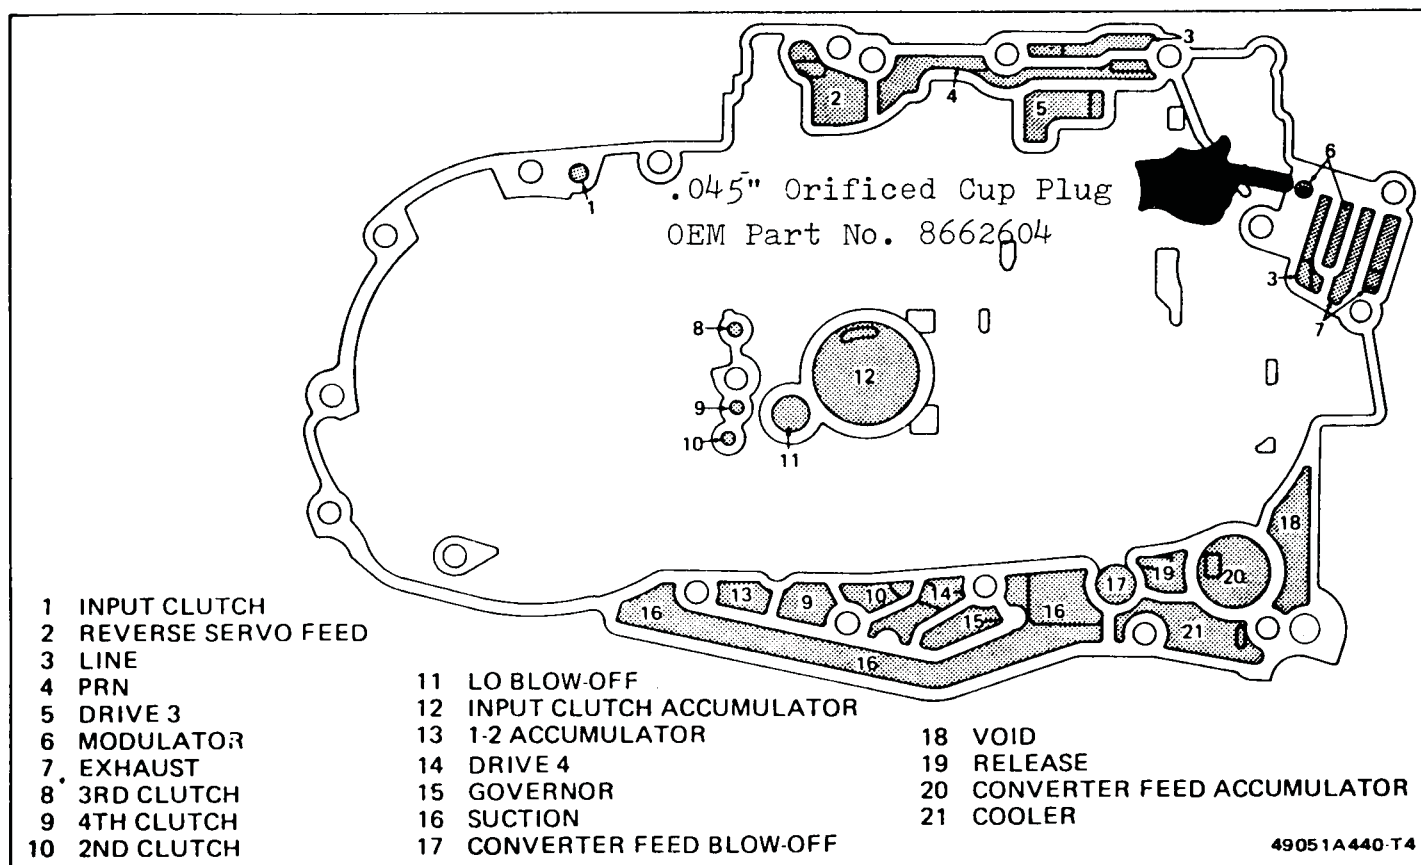

Figure 53
- 3) Channel Plate - Orificed cup plug added to channel plate to stabilize modulator valve action (See Figure 53).